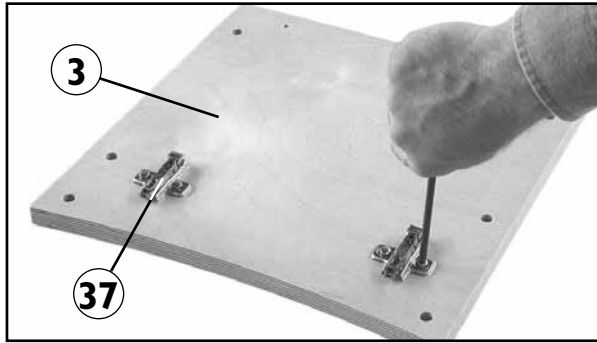

Fig. 3
3. Attach the two hinge mounting plates (37) to the left side panel (4). Carefully study the orientation in **Fig. 3.** The hinge mounting plates resemble a cross. Locate the top of the cross nearest the curved front edge of the left side panel, as shown. On the bottom of the cross you will find the hinge release lever. All cross dowel holes are located inside the cabinet.